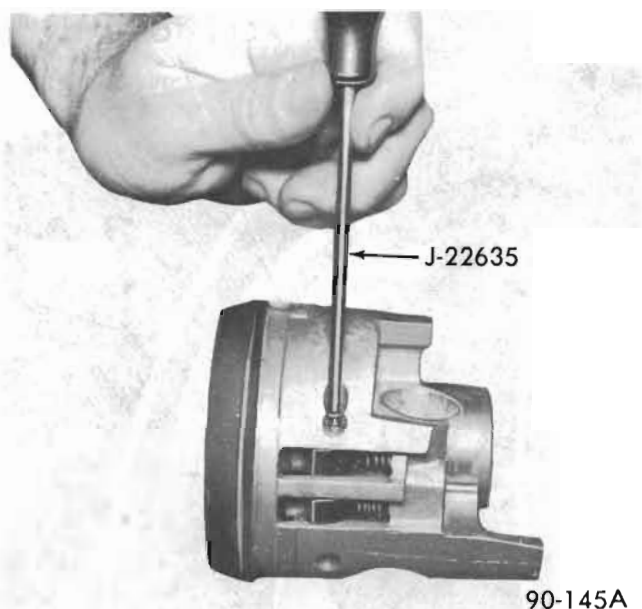

Figure 90-122 - Removing Lock Shoe Pivot Pin
4. Remove tilt release lever pin with J-22635 and hammer. Remove lever and release lever spring. (To relieve load on release lever, hold shoes inward and wedge block between top of shoes (over slots) and bearing housing). See Figure 90-122.